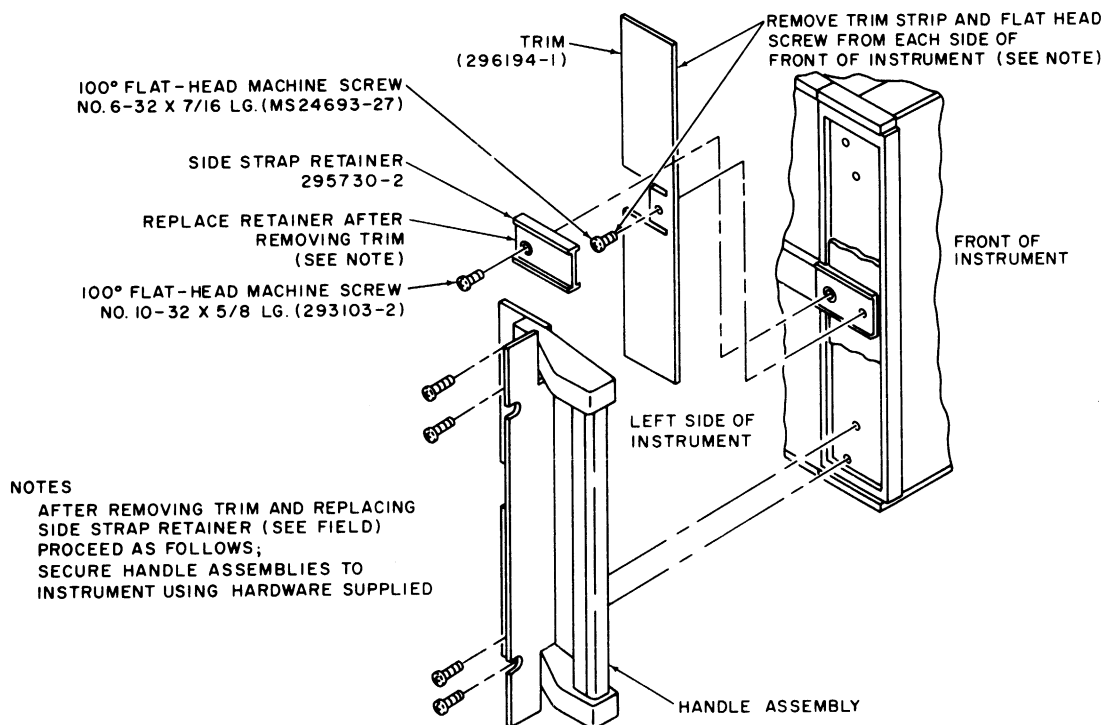

Figure 2-3. Rack Mount Option 049
- b. Option 049 Rack Mounting Adapter and Option 050 Slide Mounting Adapter. (See Figures 2-3 and 2-4).